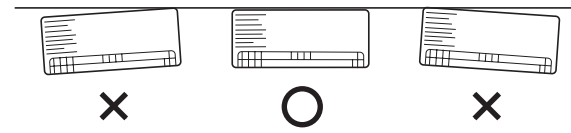

Fig. 3-117
- (2) Check with a tape measure or carpenter's level. This is important so that the unit is correctly installed. (Fig. 3-117)
- (3) Make sure the panel is flush against the wall. Any space between the wall and unit will cause noise and vibration.